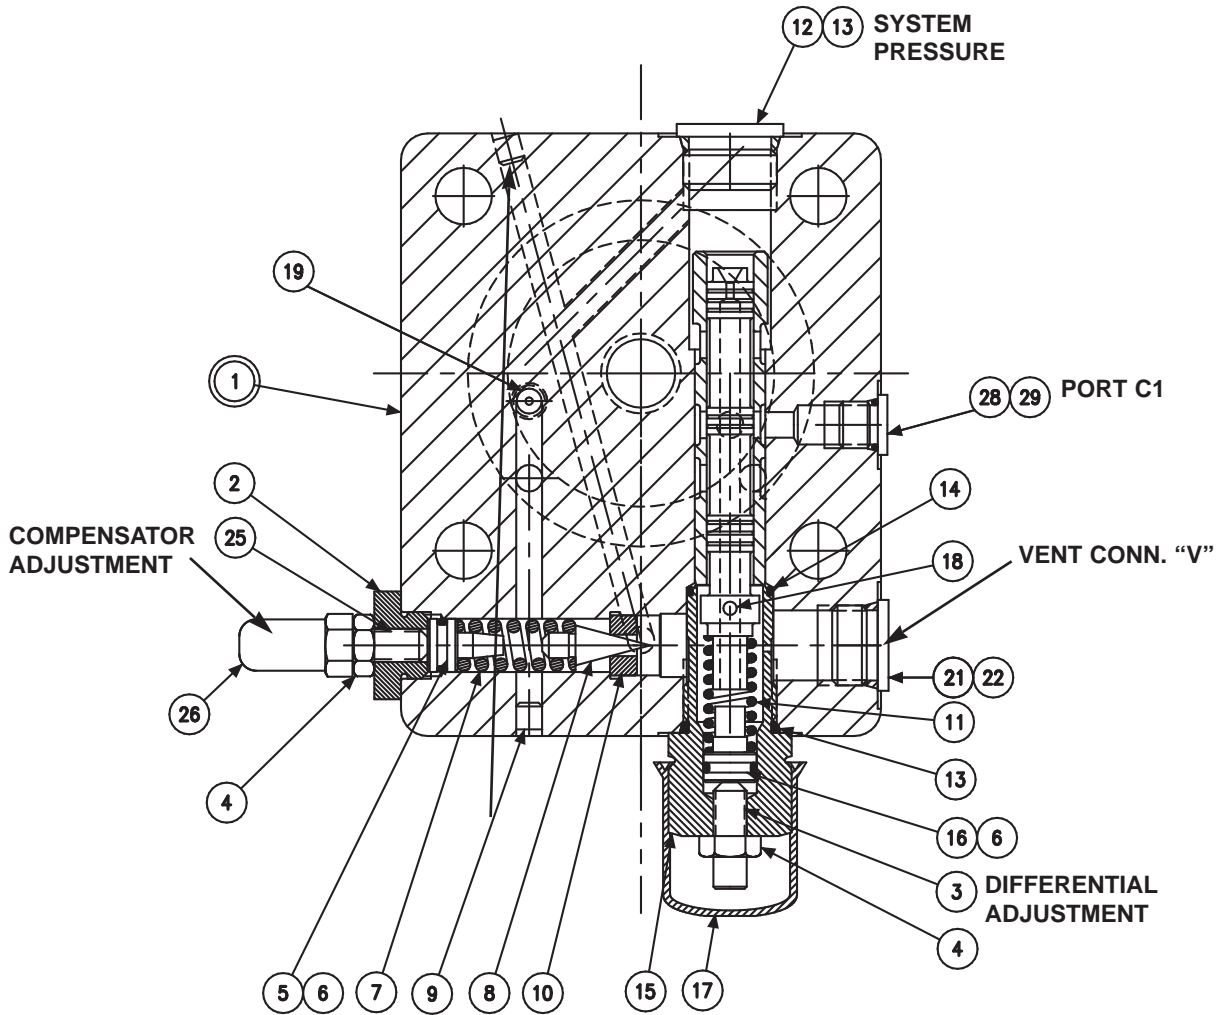

FIGURE 6
1. **See Figure 6.** Back off max. volume screw or handwheel to full displacement. Remove max. volume screw or hand wheel assembly.
3. Remove plug (15) and attached parts. Remove spring (11) and spool (18).
4. Remove adjusting plug (2) and attached parts. Remove seal piston (5). Note: a 10-24 screw may be used to assist in pulling the piston. Remove spring (7) and cone (8).
5. Do not remove sleeve in body (1). Sleeve is pressed into cap and finished to size. If sleeve or cap is worn, replace the cap-sleeve assembly (1).
6. Examine seat (10) for wear. Do not remove unless damaged.
PARTS LIST FOR FIGURE 6